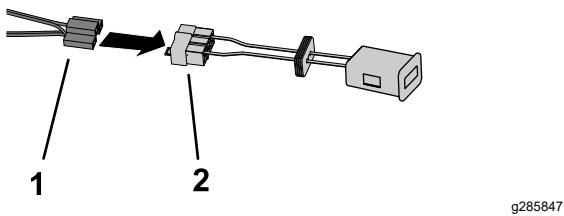

Figure 3
4. Connect the wireless hour meter to the WHM kit harness (Figure 3).